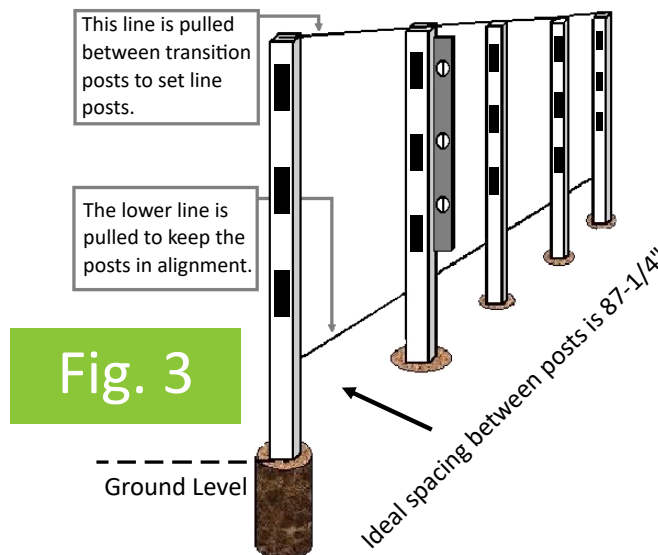

Fig. 3
1. Begin by setting the end and corner posts. Plumb and level each post to the string line using a post level or 4' level. Make sure the posts are next to but not pushing the string line. String a line from the top of each end post and set the remaining posts to this height. Fill the hole with concrete and brace if necessary until concrete is cured. Allow concrete to dry 24-48 hours (depending on the temperature) before building (see Fig.3).